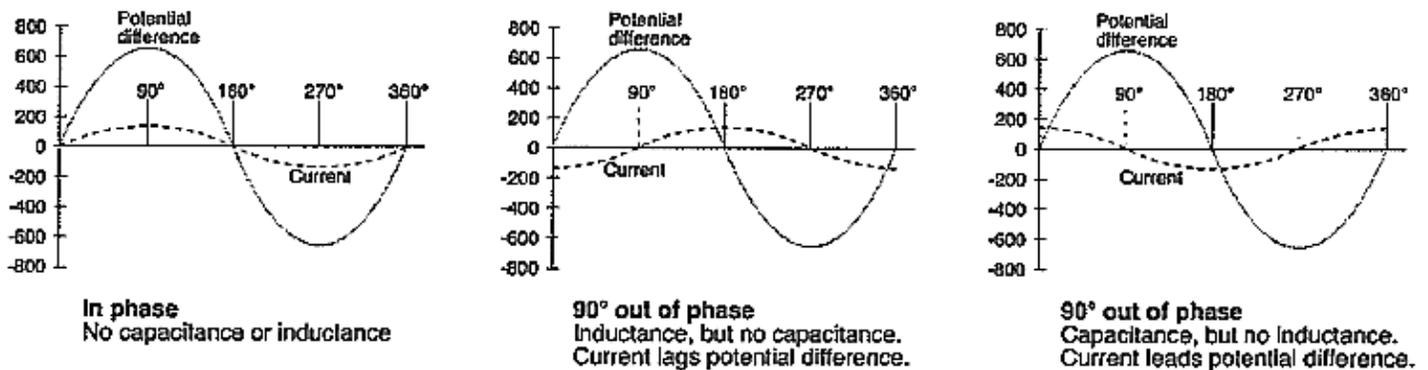

Figure 9.10: Phase Relationships Between Current and Potential Difference
- The current may be exactly *in phase* with the potential difference as shown at the left in Figure 9.10. This condition occurs when the circuit contains resistance but no inductance or capacitance.
- The current may *lag* behind the potential difference as shown in the middle portion of Figure 9.10. The phase angle can be as large as 90° . This maximum phase angle occurs in a circuit that contains inductance but no resistance or capacitance.
- The current may *lead* the potential difference as shown at the right in Figure 9.10. The phase angle can be as great as 90° if the circuit contains capacitance but no resistance or inductance.